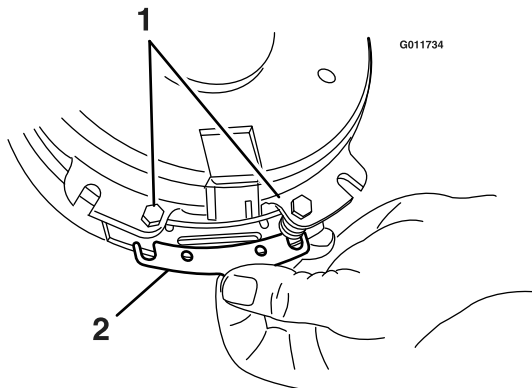

Figure 34
- A. Loosen both brake mounting bolts one-half to one full turn (see Figure 34).